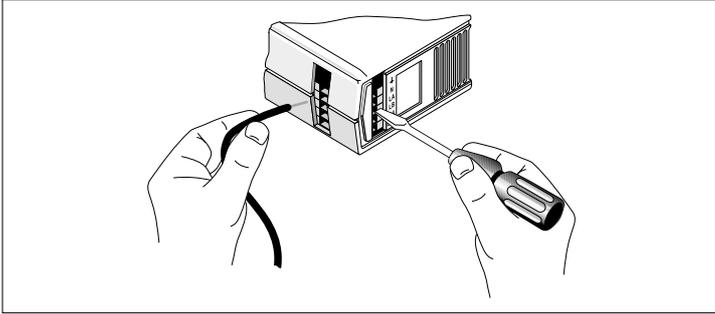

Fig.1-3: Connecting to 'cage clamp' terminals.
2. Insert the screwdriver blade as far as it will go into each terminal release point (see Fig.1-3) this will open the cage clamp allowing the cable to be withdrawn.
4. Using suitable cable, make the following connections between the *DIMMER* module and the distribution panel (see Fig.1-3):
Insert the screwdriver blade as far as it will go into each terminal release point (see Fig.1-3) this will open the cage clamp allowing the cable to be inserted. Release the pressure on the screwdriver, and check the security of the cable connection.